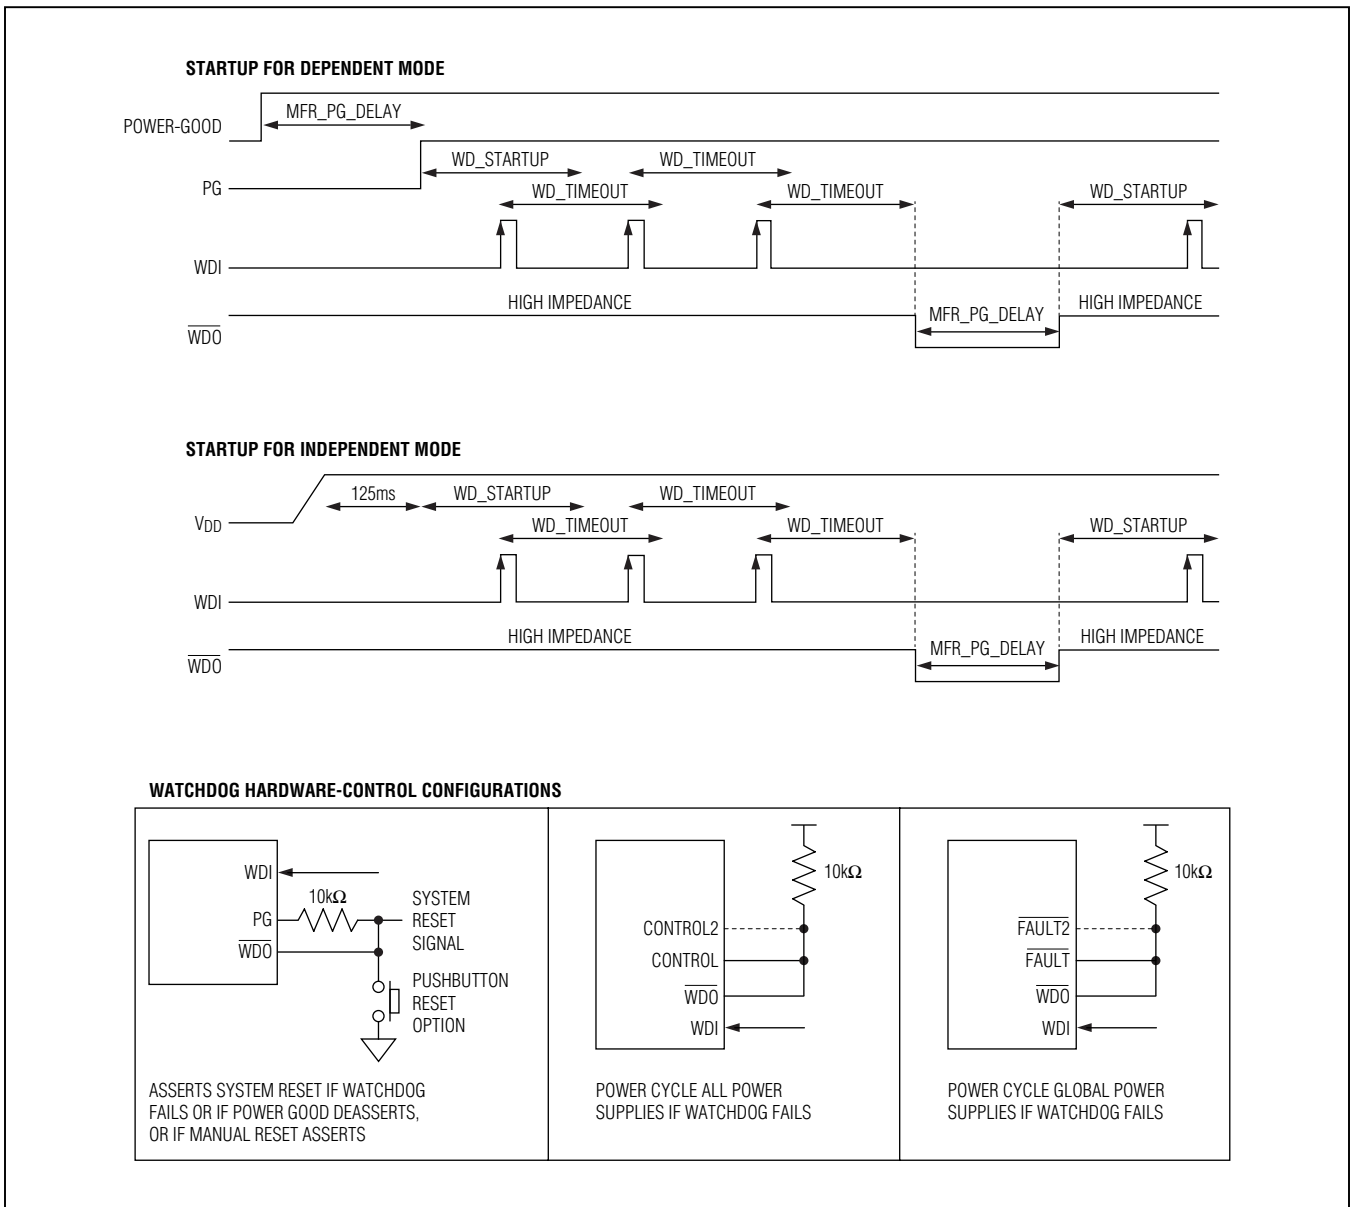

Figure 4. External Watchdog Operation
In both dependent and independent modes, the WDO pin can also be configured to act as a manual-reset (MR) input. When the WD\_WDO\_MR bit is set in MFR\_WATCHDOG\_CONFIG, the WDO pin becomes a digital input/output pin that detects a falling edge, debounces the falling edge for a 200ms period, and then once the manual reset has been qualified, the device asserts the WDO output low for the time configured in MFR\_PG\_DELAY before releasing the pin and restarting the watchdog function. To prevent glitches from occurring in the reset signal, the device seizes the reset signal as soon as it qualifies the manual reset and holds the WDO output low for the MFR\_PG\_DELAY time. The MFR\_PG\_DELAY time should be configured for a time longer than the manual-reset pulse length. When the time configured in MFR\_PG\_DELAY expires, the device releases the reset signal and restarts the watchdog as long as the pin is high. If the pin is low when the WDO pin is released, the device waits for the pin to go high (debounced by 20ms) before restarting the watchdog function. See Figure 4.